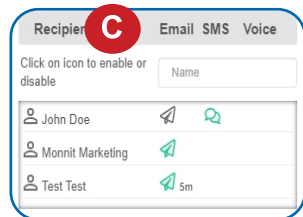

Figure 16
- C.** Recipient list identifies who will receive the notification. See Figure 16.